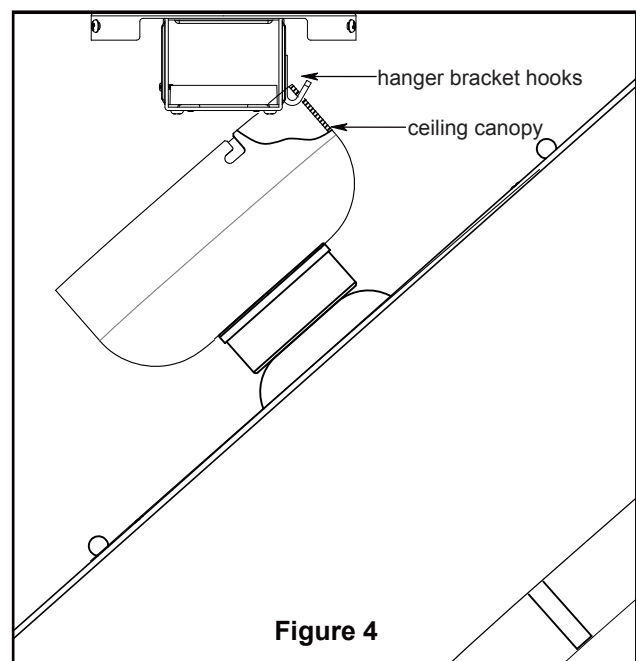

Figure 4
- ☐ 3. The side mounting strip holes of the ceiling canopy are hung on the hooks of the hanger bracket. (Figure 4)